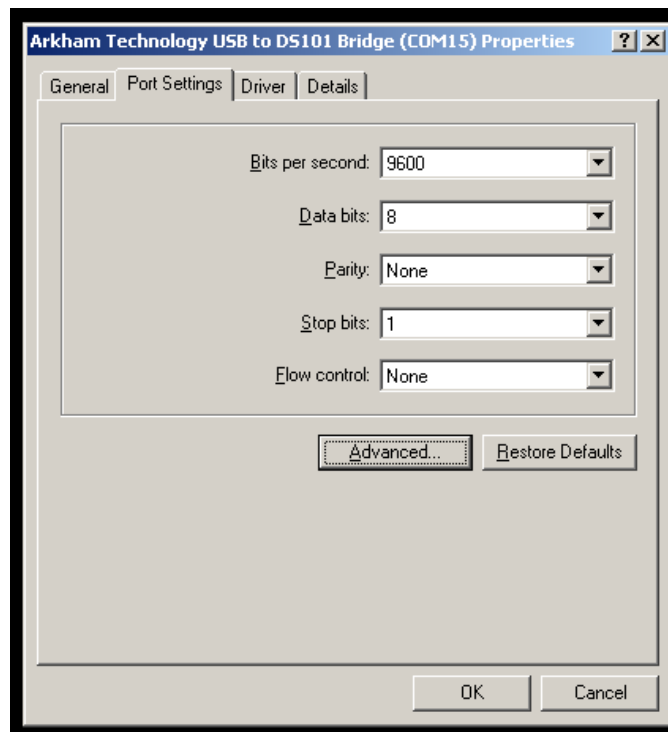

Figure 3-5: View Device Port Settings
- c) Select on the *Port Settings* tab as shown in Figure 3-5